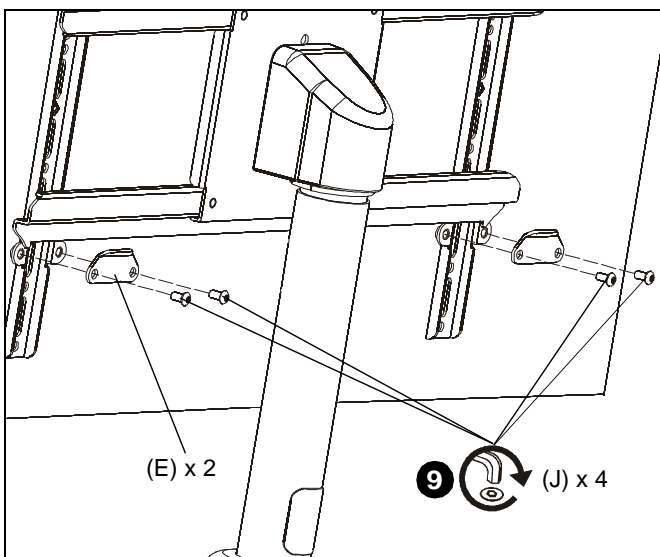

Figure 8
9. Use four 1/4-20 x 1/2" button head security cap screws (J) and two interface clamp brackets (E) to secure vertical interface brackets (D) to table stand interface (C). (See Figure 8)